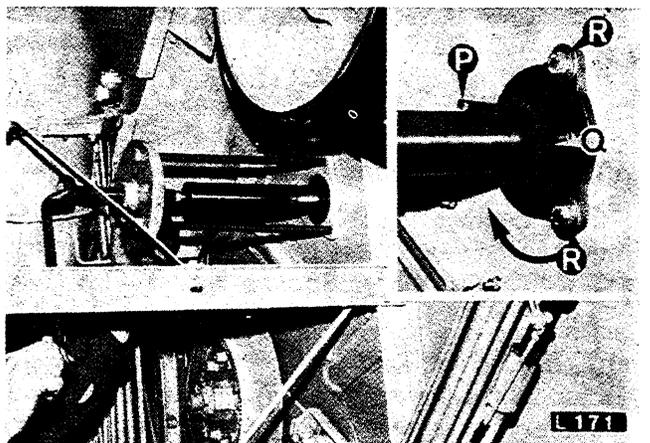

FIGURE 37
Remove the flat key, Point P, Figure 37, and washers Q. Remove the three cap screws at Point R. The bearing housing can then be removed by using a puller, or special pullers part #327402 and #327406.
**NOTE:** In reassembling, be sure to use the same number of washers shown at Q, Figure 37, to maintain proper sheave alignment. The distance should be 30 mm, or 1 $\frac{3}{16}$ " clearance between the inner pulley sheave half and the frame.